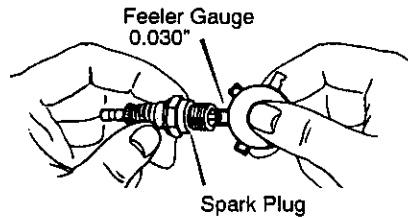

Figure 38
2. Be sure **spark plug** is clean and free of foreign material. Check electrodes gap with a wire **feeler gauge** and reset gap to 0.030" if necessary. See Figure 38.